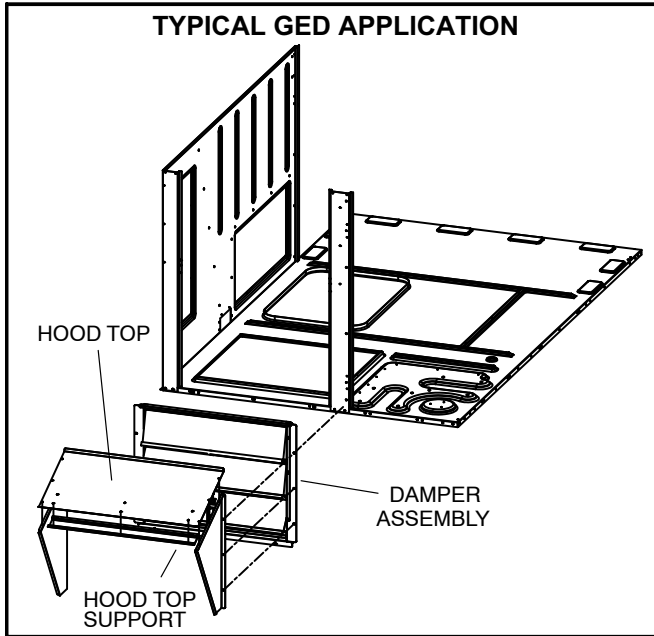

FIGURE 25
- 1- Attach hood top to hood top support at the top of the damper assembly. See figure 25.
- 2- Remove screws from sides of economizer assembly (if installed). Remove paper backing from foam gaskets on hood sides. Secure left and right hood sides to the damper assembly as shown in figure 25.